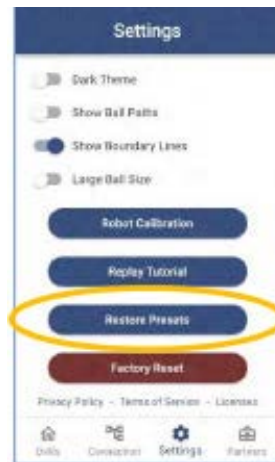

Figure 3-18
3.3.4 – Restore Presets (Figure 3-18)